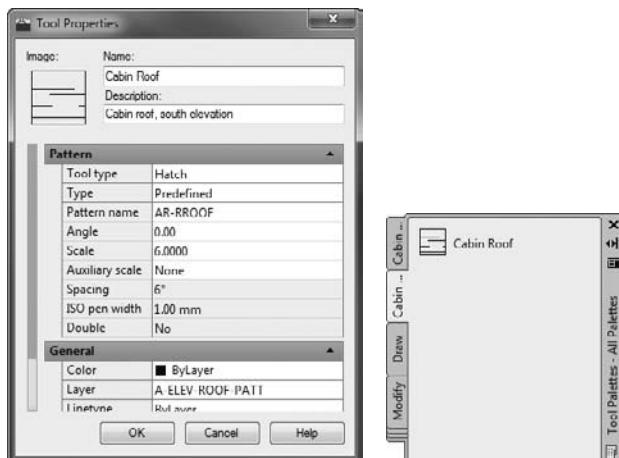

FIGURE 11.32 Renaming the AR-ROOF tool (left), and the Cabin Hatches palette after the first hatch is renamed (right)
6. Change the name from AR-RROOF to Cabin Roof. Enter a description of what the hatch represents, such as "Cabin roof, south elevation," as shown on the left in Figure 11.32, or "shakes."
Notice that the hatch has the angle and scale used on the roof and that it's also on the A-ELEV-ROOF-PATT layer. Use the slider at the left to view all the properties. Click OK to close the dialog box and update the palette (see Figure 11.32, right).